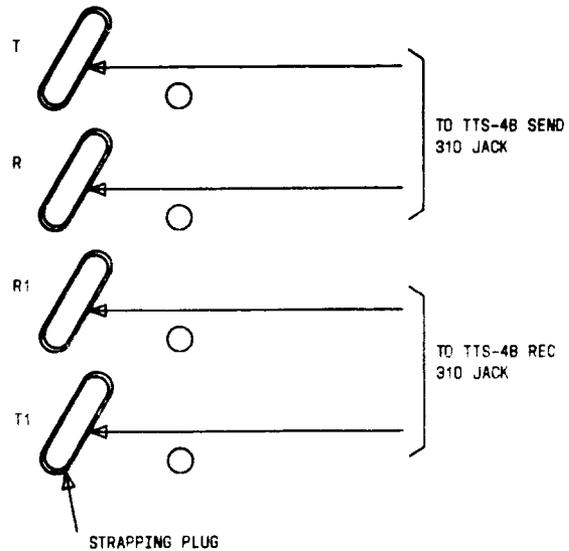

Fig. 9—171C Adapter—Test Connections
- (c) Arrange the strapping plugs on the 171C adapter terminals T, R, T1, and R1 to make connection between the top and bottom left jacks (Fig. 9).
(h) Using a 2W6A cord, connect the TTS-4B SEND 310 jack to the strapping plugs at terminals T and R on the 171C adapter (Fig. 9).
(i) Using a 2W6A cord, connect the TTS-4B REC 310 jack to the strapping plugs at terminals T1 and R1 on the 171C adapter (Fig. 9).